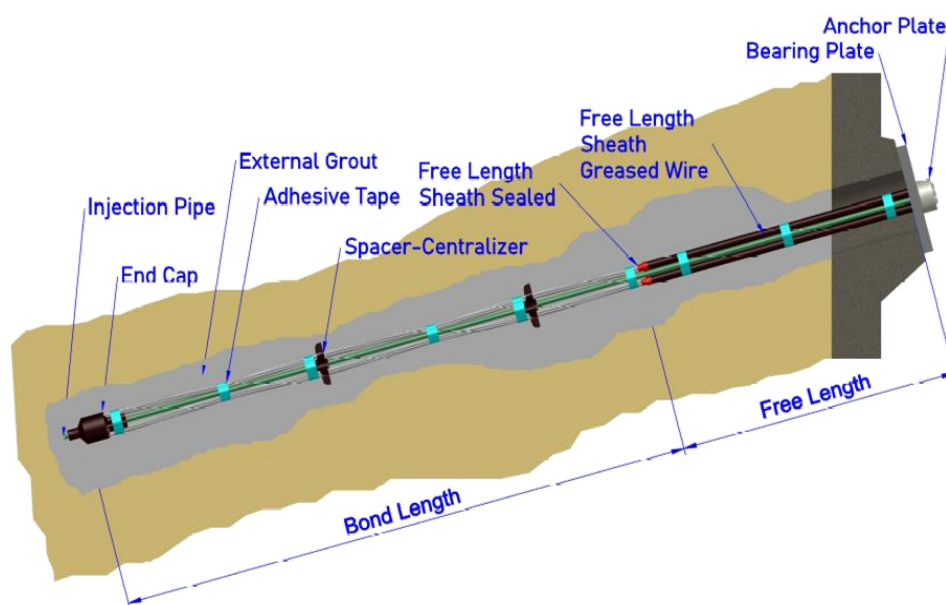

Figure 1. Definition of temporary anchor
- **Temporary anchor:** according to EAD 160071-00-0102 with limited corrosion protection, PLL type (see Figure 1 and Annex 1). In this type, each length is protected from corrosion as follows: